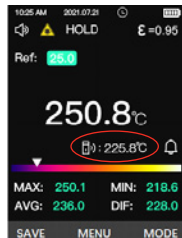

Figure 3
In this mode, a measured reading can be compared to a reference temperature. If the reference temperature needs to be changed, press the **BACK** button to clear it and measure again. When ready, measure the temperature of the detected object. The thermometer automatically calculates the difference (IR-Ref) by subtracting the temperature of the object being measured (IR) from the reference temperature as shown in Figure 3.